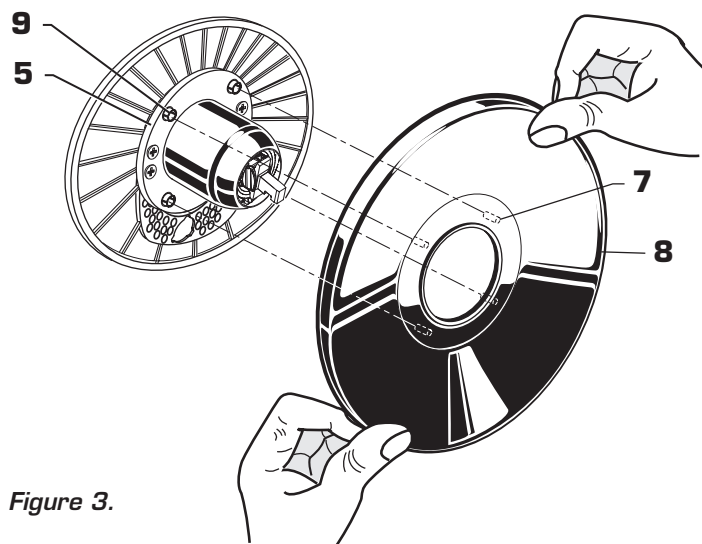

Figure 3.
- **Figure 3.** Align PINS (7) on back side of ESCUTCHEON (8) with the FOUR HOLES (9) in ESCUTCHEON SUPPORT (5) and press ESCUTCHEON (8) flush against finished wall.